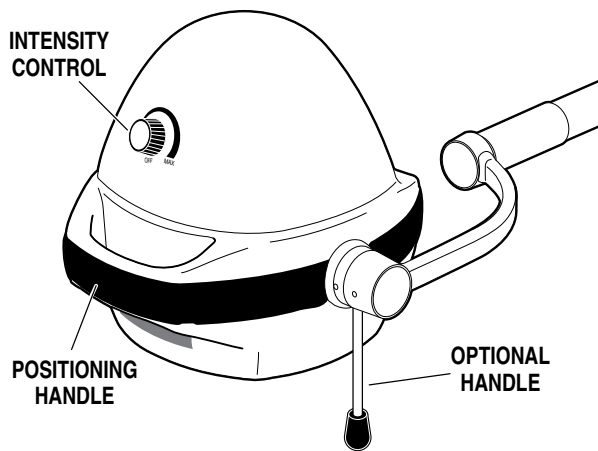
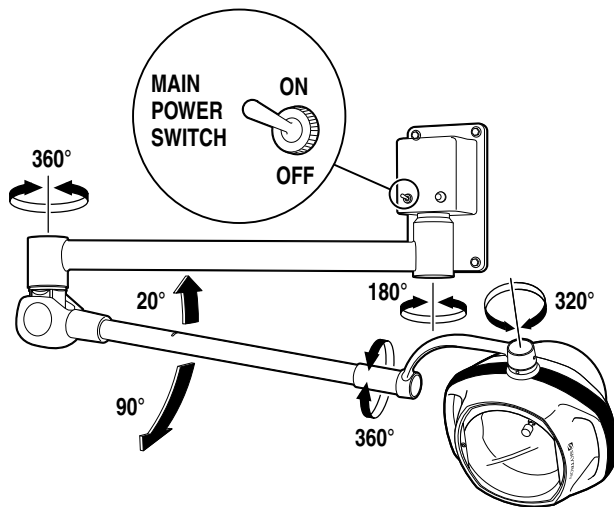

Figure 1-1. Model ST9 Lighthead
Figure 1-3. Model ST9W
1. Turn the power to the light fixture "ON" at the wall switch if applicable. Turn the power to the lighthead "ON" at the lighthead mounted Intensity control. See figure 1-1.
1. Turn the power to the light fixture "ON" at the fixture "On/Off" switch located on the wall mount housing. See figure 1-3. Turn the power to the lighthouse "ON" at the lighthouse mounted Intensity control. See figure 1-1.
2. Using the positioning handle, place the lighthouse in the desired position. Rotate the intensity control to select the desired intensity. Refer to figure 1-3 for full positioning capabilities.